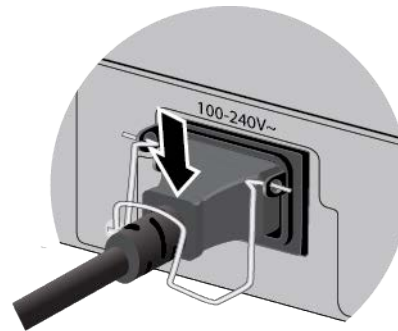

Figure 54. Lowering the Power Cord Retaining Clip
3. Lower the power cord retaining clip to secure the power cord to the router. Refer to Figure 54.